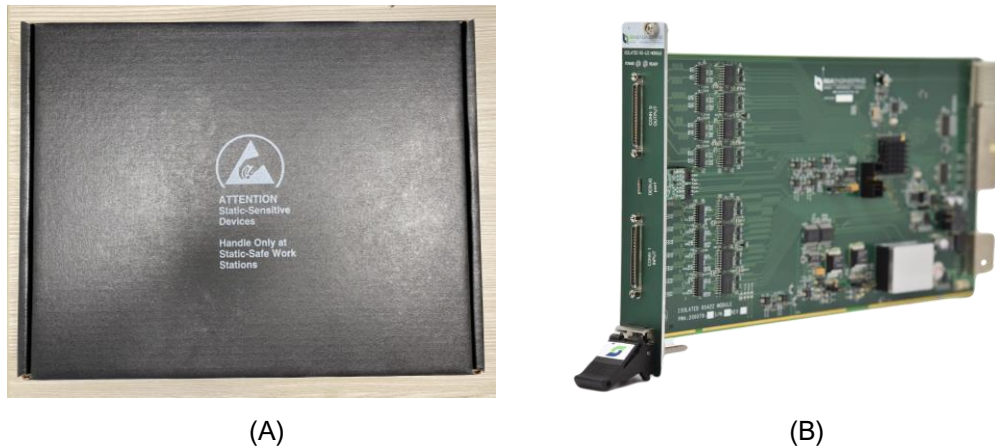

Figure 1. (A) Black ESD Safe Box, (B) SLSC Module
- 2) Remove the device from the package (as shown in Figure 1) and inspect the device for loose components or any other signs of damage. Do not install the module if the module appears to be damaged.